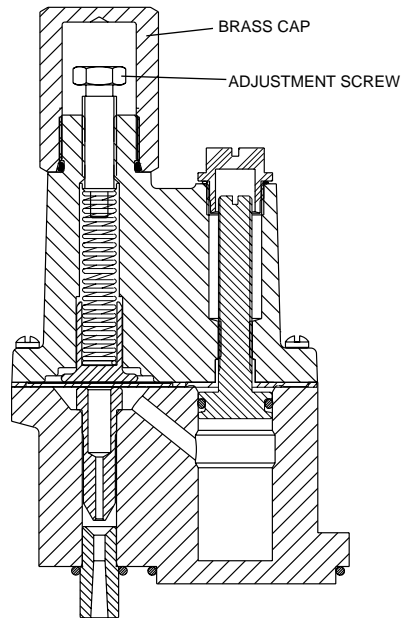

Figure 3.10 Pressurstat
- 1: Remove the brass cap (Fig. 3.10).
- 2: Turn down the adjustment screw (Fig. 3.10). Tightening the screw clockwise will increase the pressure. When the adjustment screw is fully down, the relief pressure is approximately 40 psi (276 kPa) to 45 psi (310 kPa). Fully up will result in relief pressures between 0 psi (0 kPa) and 3 psi (20 kPa).